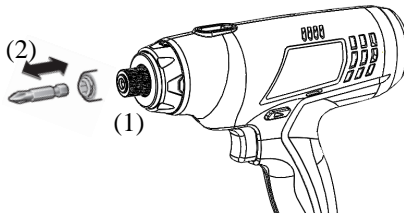

Fig.8
1. Pull out the sleeve as the Fig.8(1)
2. Insert the bit into the hex. shank as Fig.8(2), release the sleeve to fix the bit.